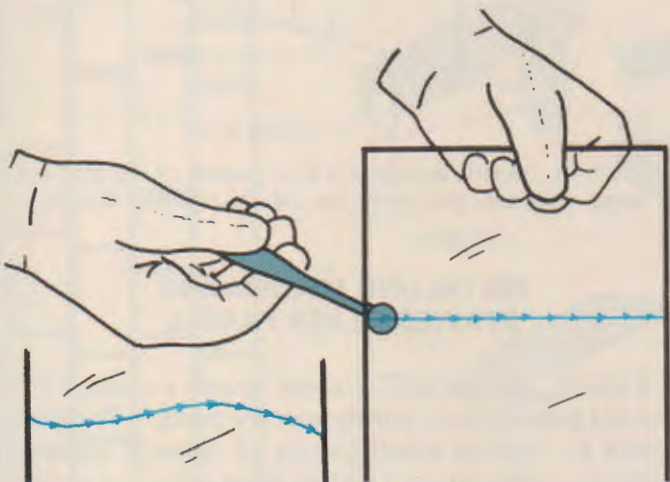

Fig. 15-11. Both straight and curved scores can be fractured by tapping the glass. Use the handle end of the glass cutter.
4. Start at one end of the scored line. The glass should begin to fracture as you tap under the score, Fig. 15-11.